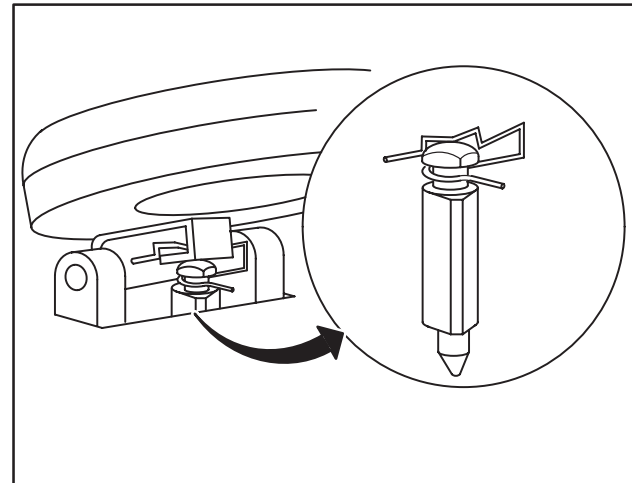

Fig. 288 – INSTALLING FLOAT AND INLET NEEDLE
6. Install inlet needle as shown in Fig. 288. Hook on spring must face away from venturi.